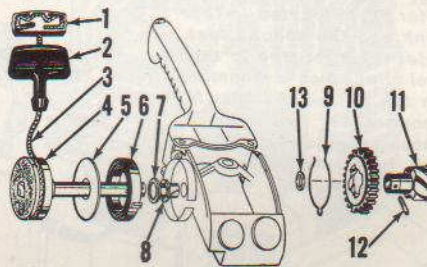

Fig. PR1-13—Exploded view of rewind starter. Cord (3) should be 45 inches long.
**REWIND STARTER.** The rewind starter can be disassembled for service after removing fan housing cover and pulley cover. Remove pin (12—Fig. PR1-13) and withdraw parts from air box. Refer to Fig. PR1-14 for installation of rewind spring. Rewind spring should be liberally oiled before installing. Install friction yoke as described in Fig. PR1-15. The 5/32 inch diameter nylon starter cord (3—Fig. PR1-13) should be approximately 45 inches long. Preload the rewind spring approximately three turns before installing pulley cover.